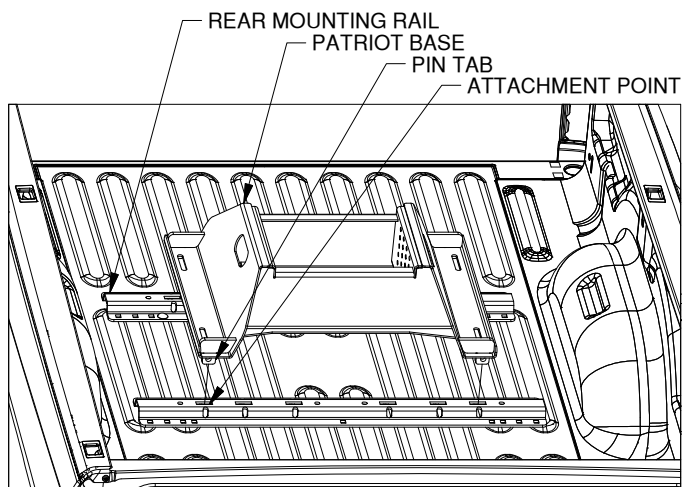

Figure C1: View into truck bed looking towards tailgate.
1. **Position the forward mounting rail.** For this step the base which will be used in the mounting rails is required. Place a mounting rail into the truck bed in front of the rear mounting rail. Place the base over the rail attachment points and carefully lower it until the pin tabs pass through the attachment points on the rear mounting rail. Attach the forward mounting rail to the forward mounting points on the base. The base should rest flat against the top of the rails, see Figure C1. With the base still attached ensure that the forward rail is centered in the truck bed.